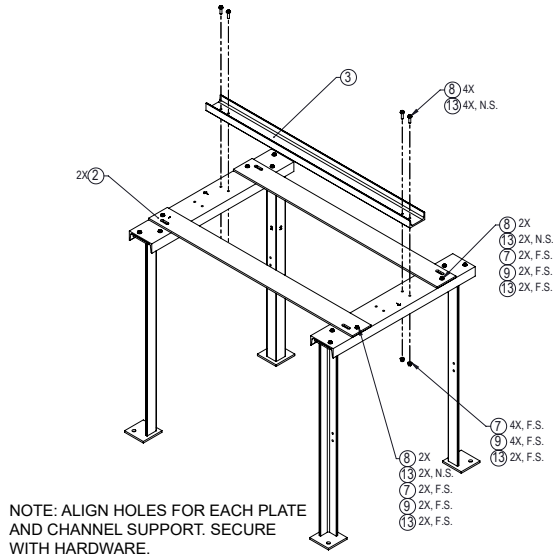

Figure 2. Assemble Plate and Channel Supports
2. Attach two (2) Plates (Item 2) and one (1) Channel Support (Item 3) to the Leg and Channel assemblies from Step 1. Secure the assemblies using the provided bolts, nuts and washers (Items 7, 8, 9 & 13). See **Figure 2**. Do not fully-tighten hardware, leave hand-tight for now.